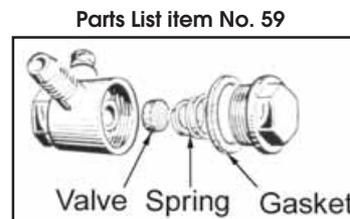

Fig. 7
- Examine the non-return valve and replace the gasket if necessary (fig.7)